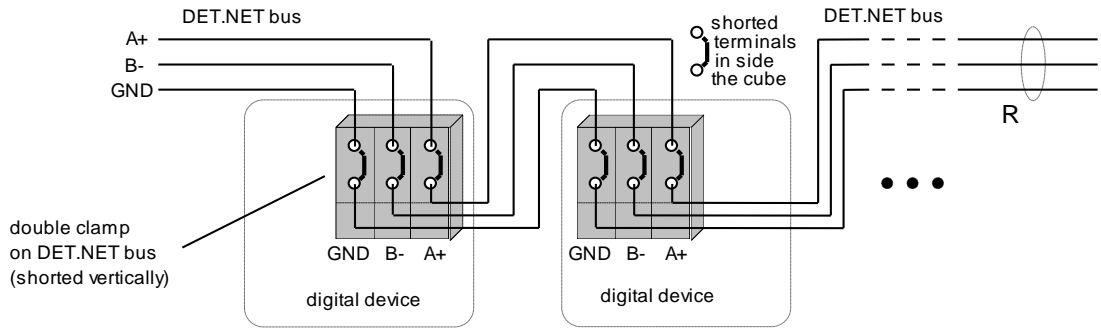

Fig. 4.2.2 Connection of further digital devices to DET.NET bus
- (1). remove core insulation over a section of 6 to 7 mm;
- (2). Use pliers to push (insert) the stripped core end into the round terminal opening; terminals are short-circuited in pairs vertically
Fig. 4.2.2. A properly inserted cable cannot be dislodged from the terminal. To remove the wire, press the orange button with a flat-bladed screwdriver as per arrow (3) and pull the wire out as indicated by arrow (4).
4.2.2 Connect the remaining devices (detectors and/or actuators, connecting with detectors) to the [DET.NET] bus, following the suggested colour scheme when connecting the wires to the corresponding terminals tab.4.2.2. The units should be connected sequentially, with all wire connections made to the double bus terminals of each unit. One terminal should be used to connect the current device at the end of the existing detector network, the other is used to lead the serial connection to the next device Fig.4.2.2.